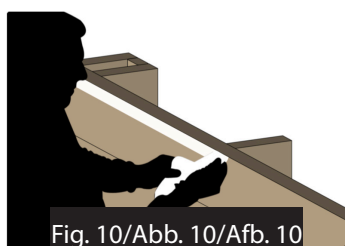

Fig. 10/Abb. 10/Afb. 10
- Stick the two-faced adhesive tape panel by panel, aligning it with the upper part of the top boards (figure 10). If the wood is slightly humid and dusty, it can be smoothed using sandpaper to facilitate adherence.